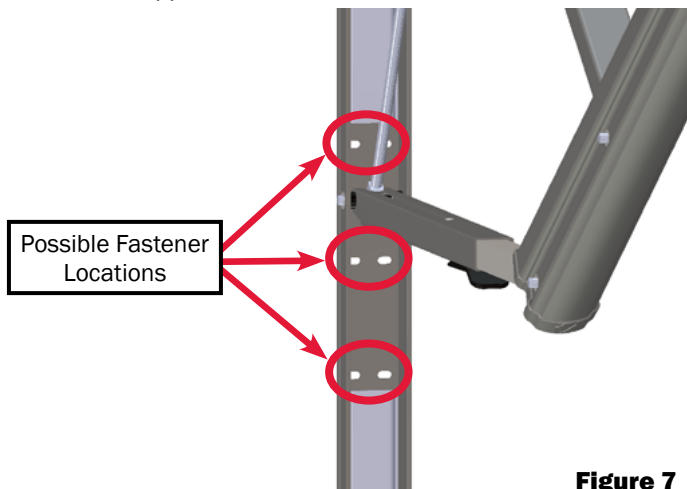

Figure 7
- Install the remaining two #14 x 1 1/4" screws at any of the three locations shown (Figure 7) in the center of the support arm.